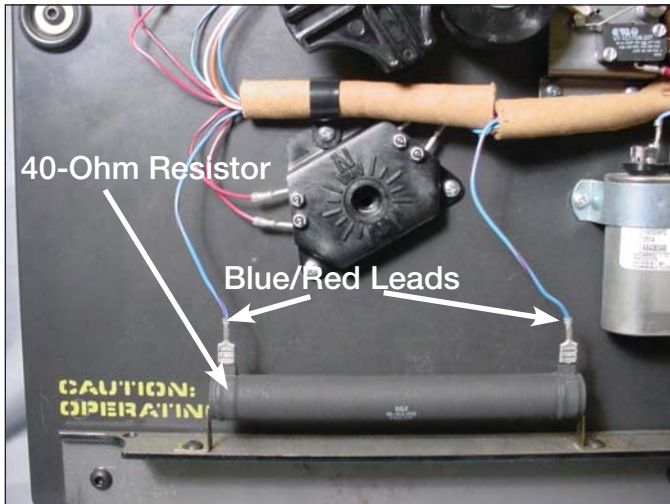

Figure 12.
4. Disconnect and remove the blue and red strip leads from the 40-ohm resistor. These connections are push-on connections. See Figure 12.